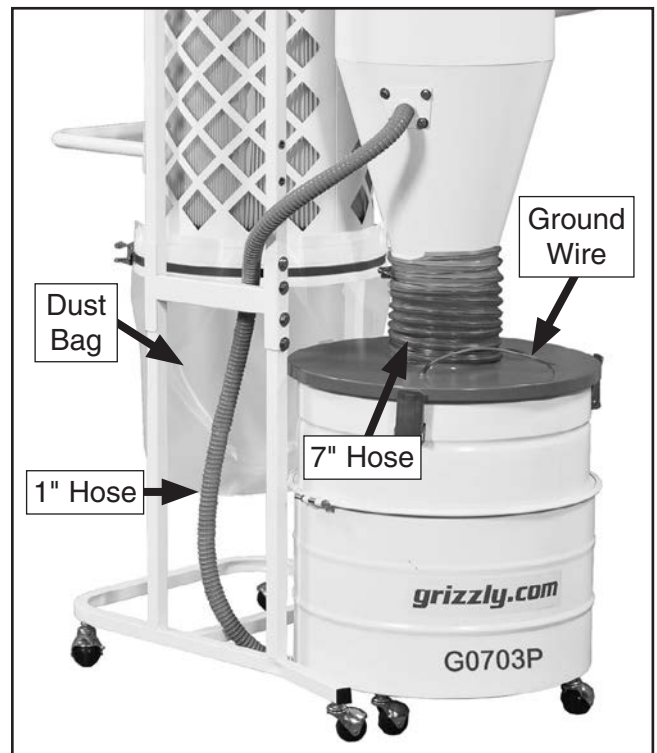

Figure 27. Hose and bag installed.
19. Connect the other end of both hoses to the cyclone housing (see **Figure 27**), and secure them in place with the appropriate diameter hose clamps.
20. Install the filter element dust bag (**Figure 27**) to the filter, and clamp it in place with the spring clamp.
21. Fasten one end of the ground wire (**Figure 27**) to the copper screw in the drum lid and the other end to the stand, using an existing $\frac{5}{16}$ "-18 hex bolt.